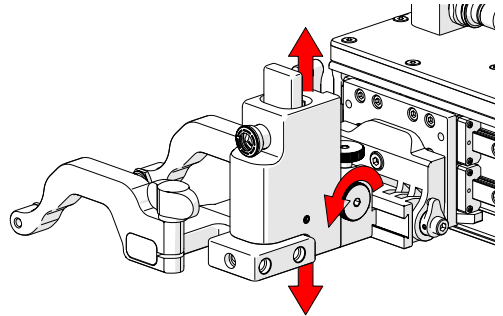

Fig. 73 - Vertical adjustment
2. The vertical adjustment knob (*Fig. 73*) allows the heavy duty vertical probe holder's height adjustment. This adjustment also controls the probe holders spring tension.